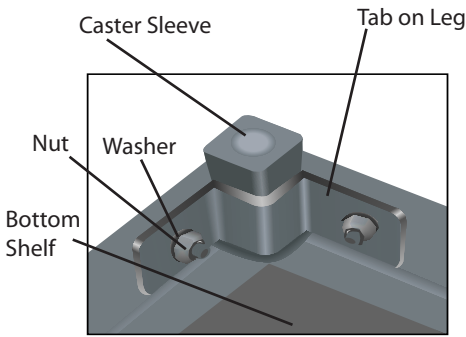

Figure 2
3. Fit the bottom shelf (WIDER side of shelf) over the tabs next to the caster sleeves (see figure 2) making sure that the tabs are fitted underneath the shelf (see figure 1 & 2).